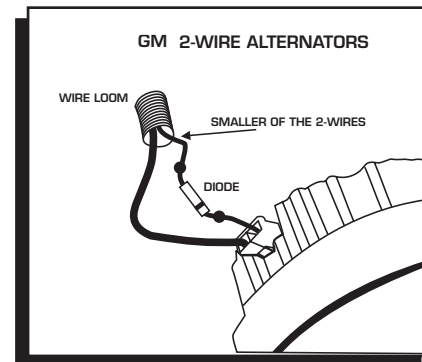

Figure 5 Installing the Diode to a 1973-1983 GM Engines.
**GM:** Delcotron Alternators use an internal voltage regulator. Install the Diode in-line on the smallest wire exiting the alternator (Figure 5). It is usually a Brown wire.